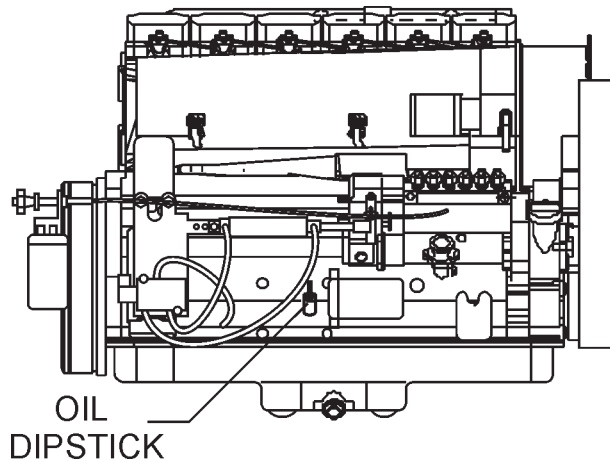

Figure 11. Engine Oil Dipstick
7. Remove the engine oil dipstick from its holder (Figure 11).